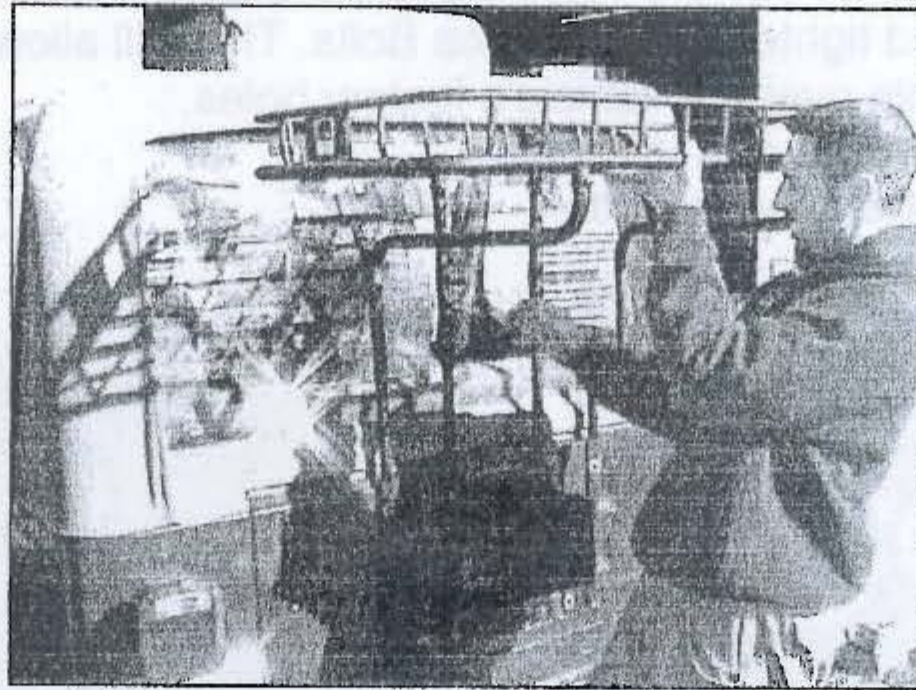

Figure 9
1. With the Basket and Bars properly assembled, raise the Basket over the (4) Mounting Brace's as shown in Figure 9.